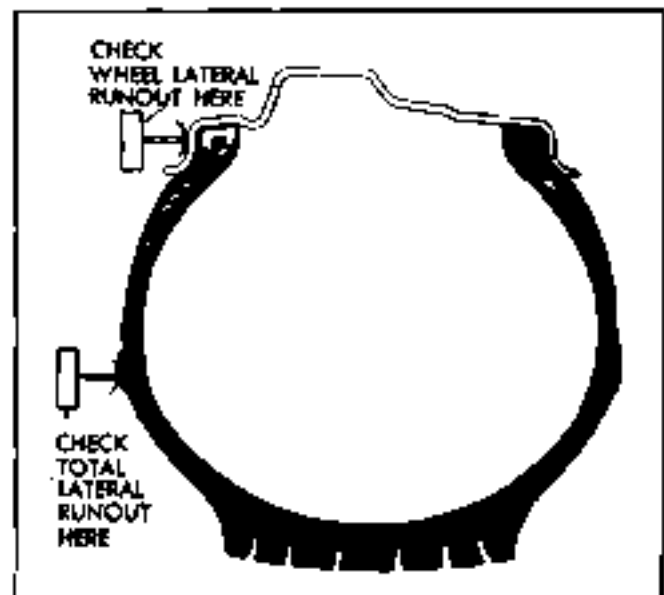

Fig. 10-3 Lateral Runout Inspection
4. Attach a dial indicator to a stationary stand similar to step 3 above. Slowly rotate wheel and check for total lateral runout of wheel and tire. See Fig. 10-3. Maximum allowable total lateral runout is 1/8". If total lateral runout exceeds 1/8", then attach a dial indicator to the stationary object and check for lateral runout of wheel. Lateral runout of wheel should not exceed .045".